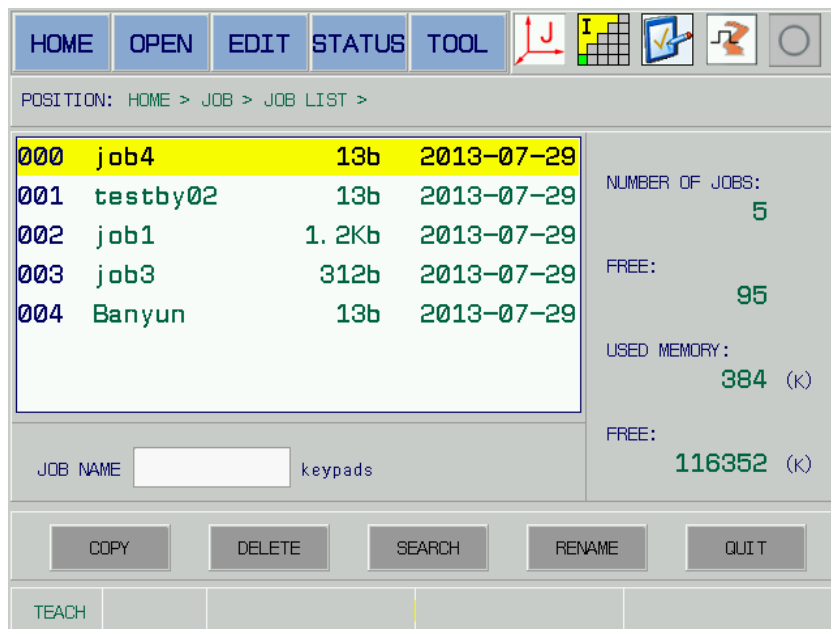

Fig. 5-14
1. Shift cursor to the {JOB} menu by [TAB] and left/right direction button, then open the {Job list} submenu matching with the [SELECT] and move the cursor to the {Job list} menu by up/down direction button, lastly open the {Job list} page by [SELECT]; refer to the Fig. 5-14.